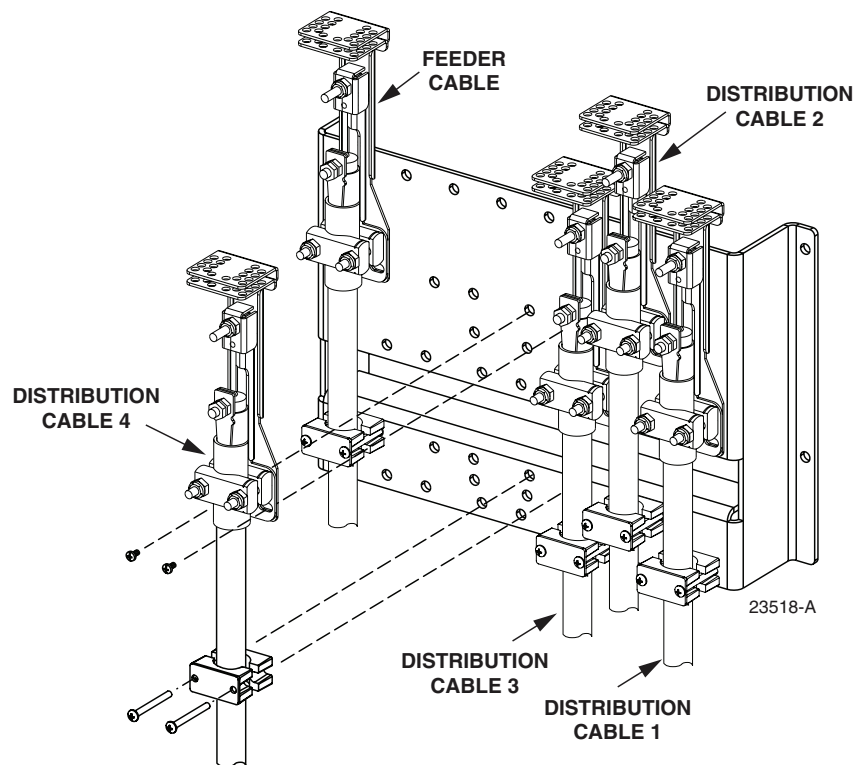

Figure 23. Secure Distribution Cable to Cable Bracket
- 14.3 Locate the cable clamping position specified for the next distribution cable as shown in Figure 23.